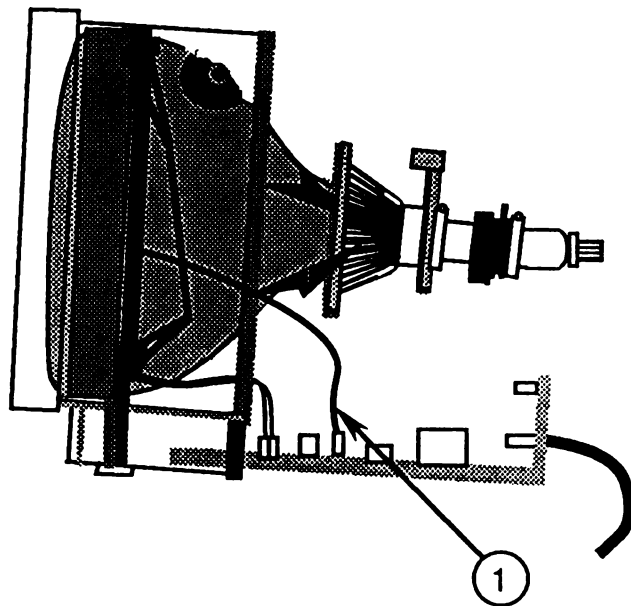

FIGURE 32
14. Reconnect the degaussing coil ground strap to connector **W** on the main logic PCB (Figure 32, #1), making sure the "**W**" on the side of the connector is matched to the "**W**" on the logic board.